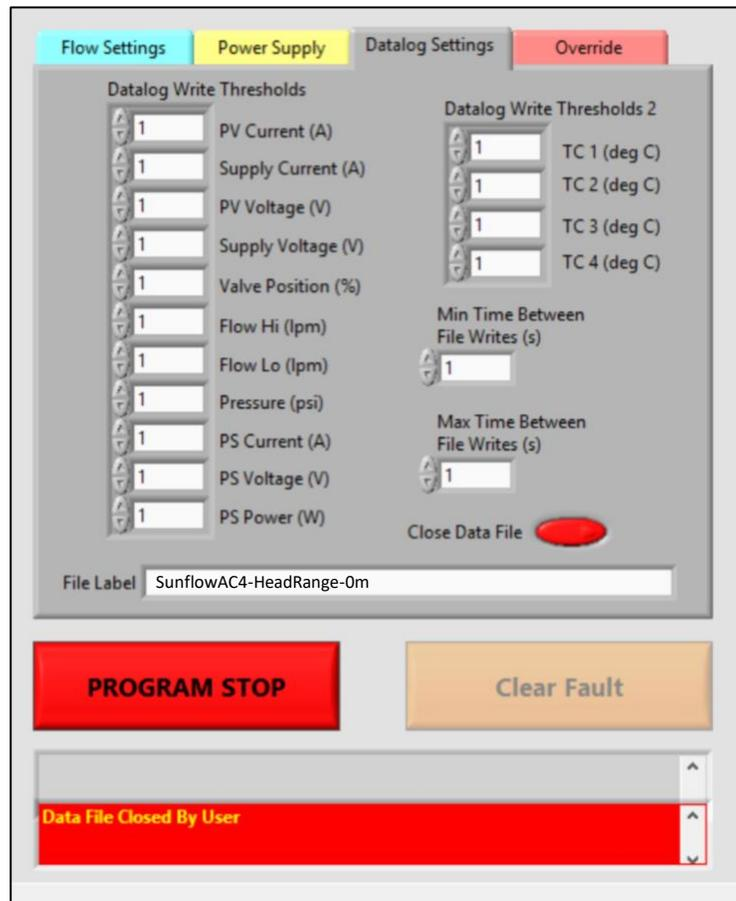

Figure 3: File label in LabView filled in for the head range test
- a. For example, the first step of a pump called “SunflowAC4” would be “SunflowAC4-HeadRange-0m” or “SunflowAC4-HeadRange-allpoints” (depending on how you choose to write files, see step 13a for more information). See Figure 3 below: